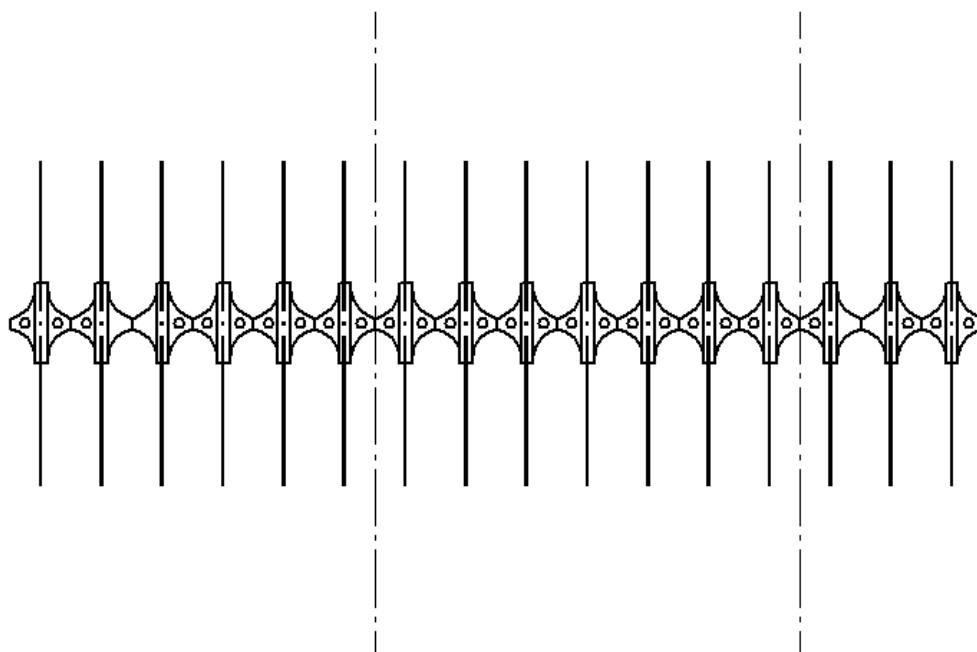

Figure 2 Bird Spike Trimming Locations
1. Trim the Bird Spike (A) with hacksaw as shown in Figure 2. Please note that one section contains 6 segments, and one contains 7 segments. Discard the remaining 3 segments.